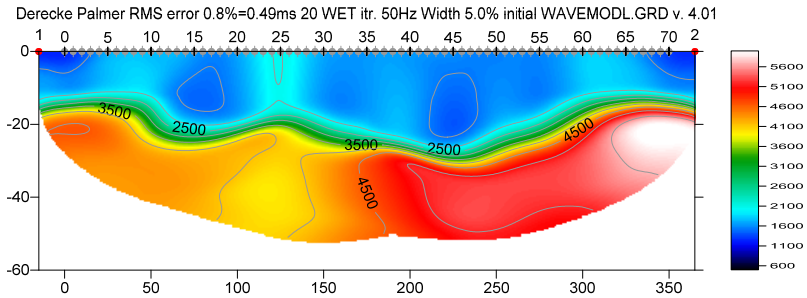

Fig. 12 : same as Fig. 5 but with shot pos. 1 inline offset shifted by -15m and shot pos. 2 inline offset shifted by 15m.
- click *Open* button and confirm prompt to obtain Fig. 12. Compare with Fig. 5.